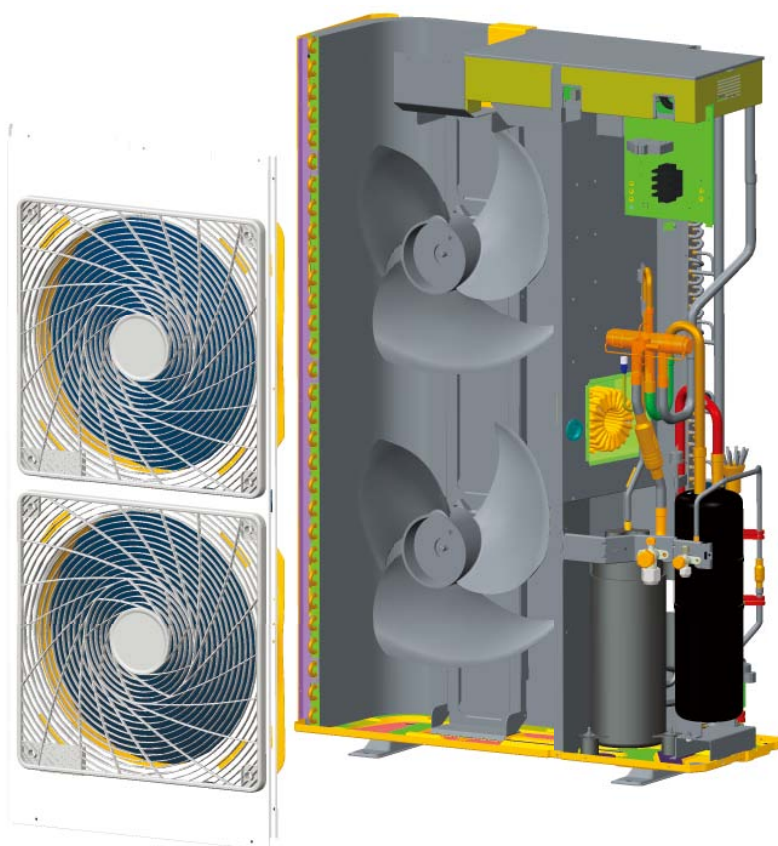

Fig. 3
- Loosen the two tapping screws, and remove the Cabinet. [See Fig. 3]